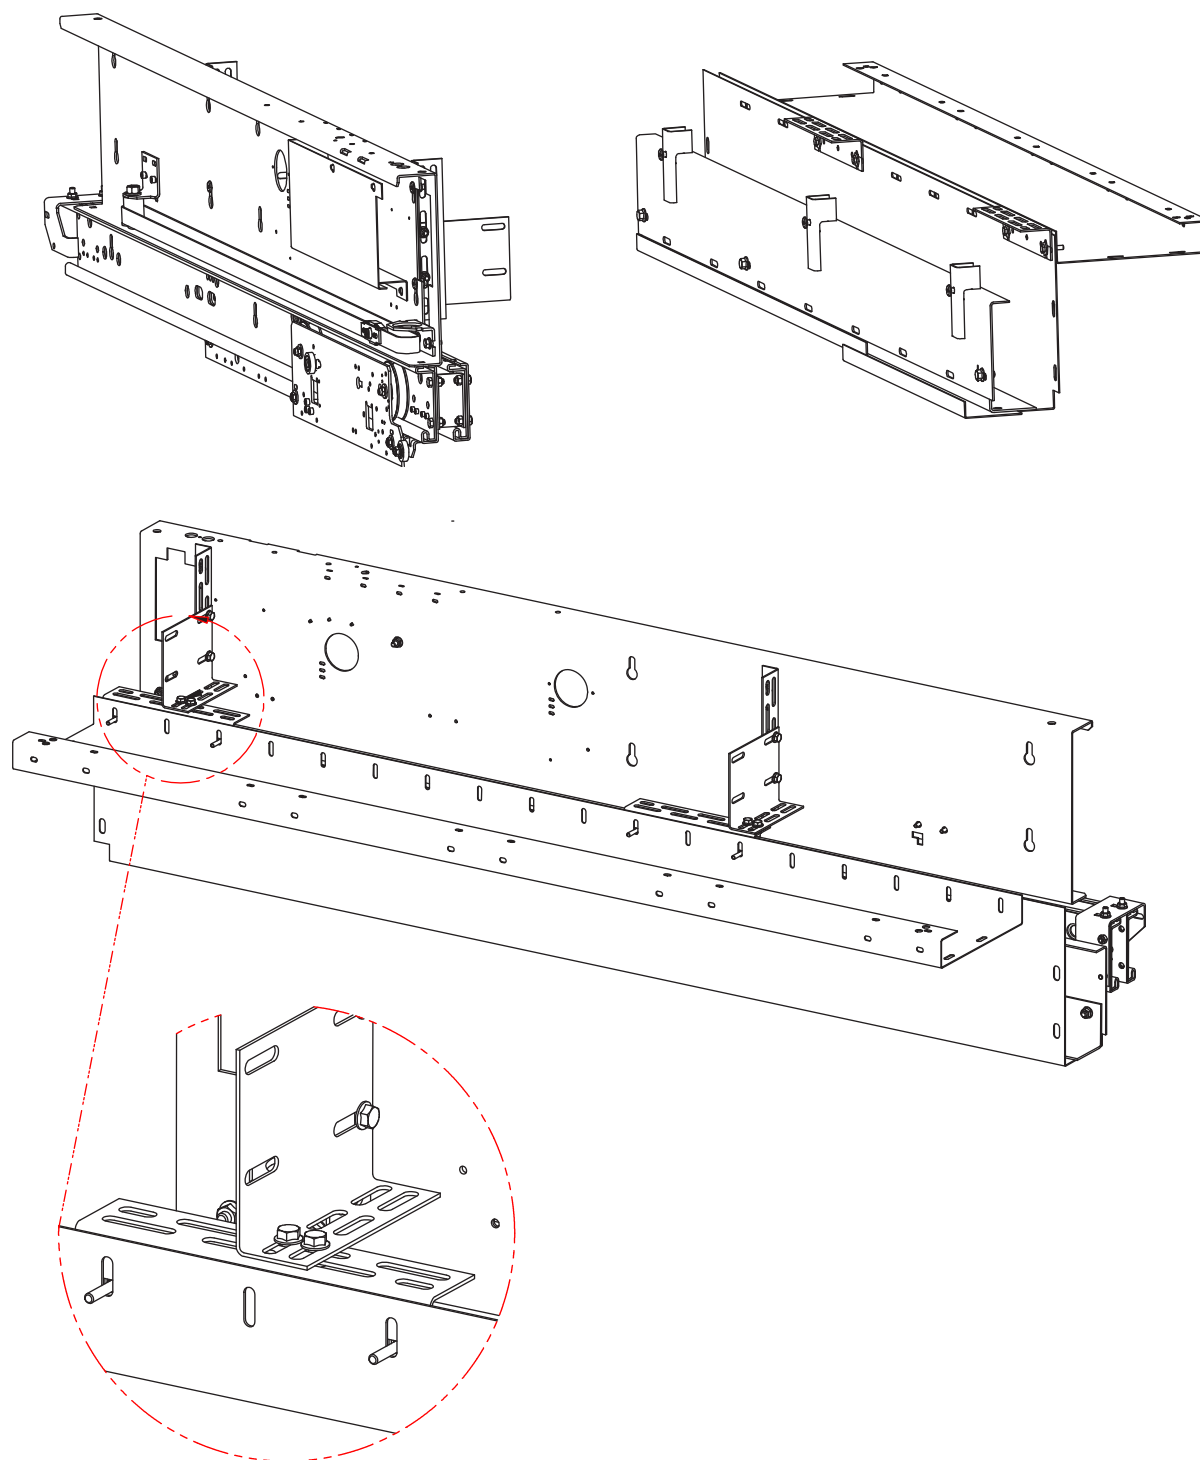

Figure 35 - Door Operator Installation
5. Install the door operator. Figure 35 on page 40.